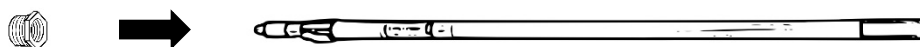

Figure 6. Attach a reducing brush with a thread that will fit the PVC faucet tee on the densitometer pole to the extension pole
- 11 If the extension pole does not have a thread to secure it to the base of the densitometer mount or if the thread does not match the thread of the PVC faucet tee on the densitometer mount, then use liquid nails adhesive to attach the reducing brush to the top of the pole (see Figure 6).